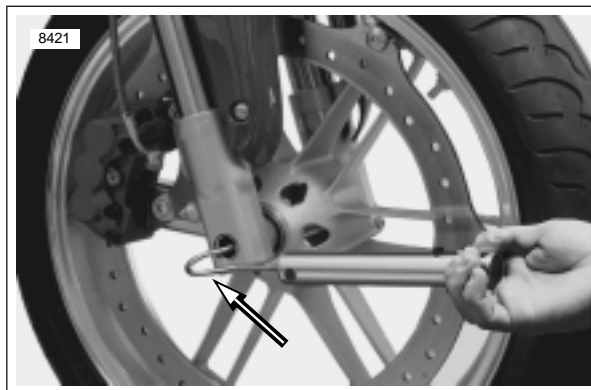

Figure 1-39. Measuring Steering Head Bearing Resistance (Typical)
6. See Figure 1-39. Hook a spring scale into the hole in the front axle. With scale 90 degrees from fork leg, pull front wheel to center position.
7. See Figure 1-39. Hook a spring scale into the hole in the front axle. With scale 90 degrees from fork leg, pull front wheel to center position.